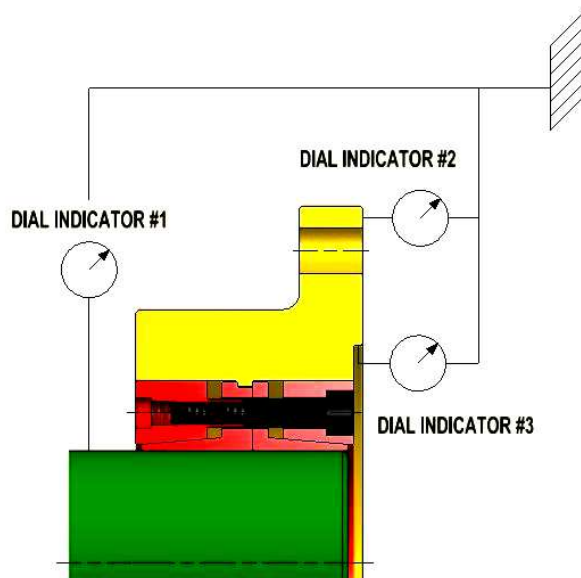

Figure 5. Coupling half installed – check of runout
6. Using dial indicators, check the runout of shaft and coupling flange as illustrated in Figure 5.
10. Using dial indicators, check the runout of shaft and coupling flange as illustrated in Figure 5.